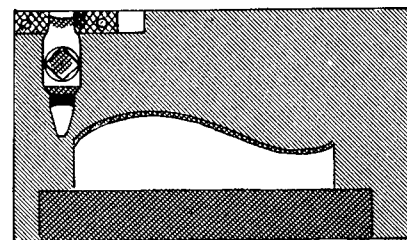

FIG. 517
6. Direct the cut downward on the left of the curve (Fig. 517).